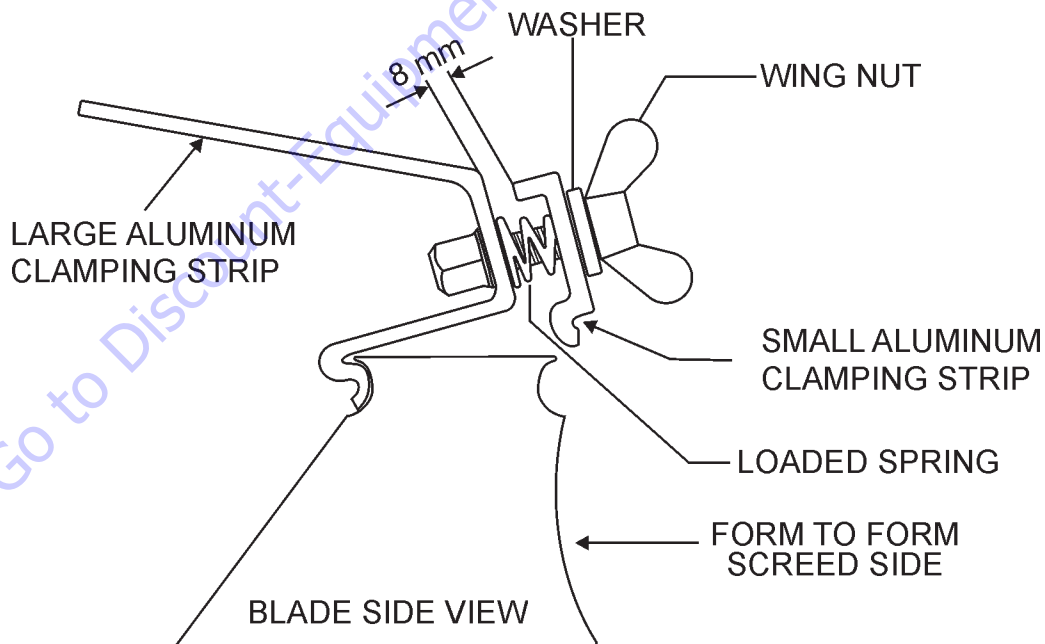

Figure 3. Blade Quick Disconnect System
2. The aluminum clamping strip (retaining plate) is located at the base of the power unit. This clamping strip is what holds the blade in place with the aid of three quick disconnect spring loaded wing nuts (Figure 3) that can either be tightened or loosened by hand.
3. Determine whether you will be using the DuoScreed on **forms** or as a **wet screed**. This will decide how the power unit will be mounted. If the DuoScreed will be used as a wet screed the wing nuts should be located above the smooth edge of the blade. If the DuoScreed will be used on forms (Figure 3) the wing nuts should be located above the curled edge of the blade.
- Place the front of the power unit over the blade (Figure 3) until the front of the clamp is seated within the front blade collar.
Before placing the DuoScreed in concrete, make certain the unit has been set up (blade) for **wet screeding**. This can be verified by observing that the operator's toes are pointing towards the smooth side of the blade (Figure 3), from the operators's position (handle bars).